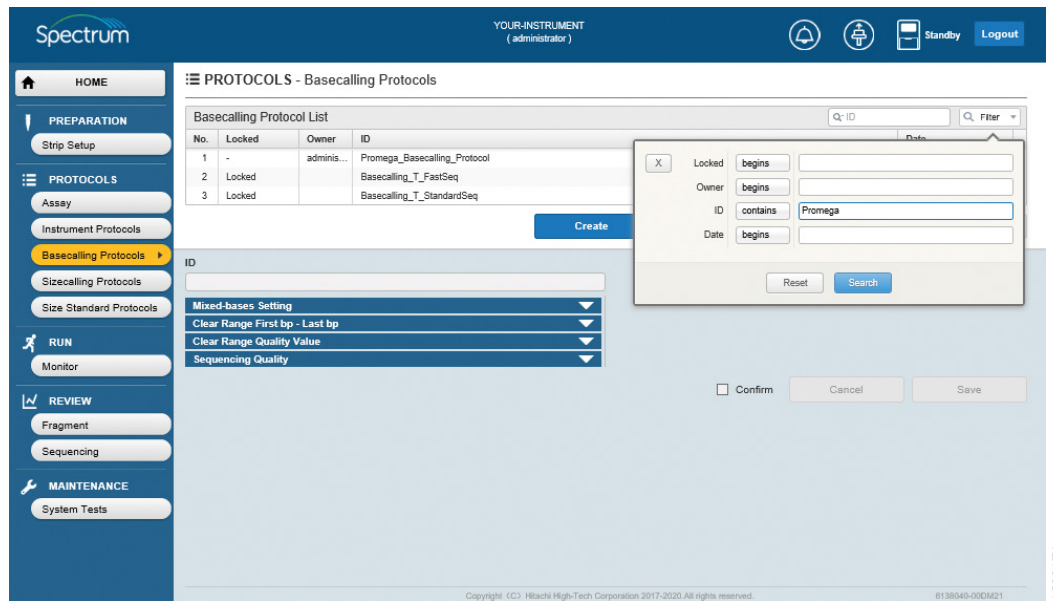

Figure 43. Basecalling Protocol List search filter option selection.
5. After selecting appropriate filters for search terms in the field being search (i.e., Locked, Owner, ID or Date), type the desired search term in the adjacent box and select **Search** (Figure 43). Alternatively, select **Reset** to exit.